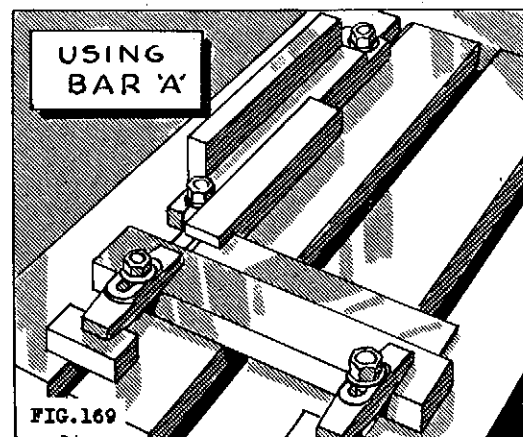

FIG.169
NOTE: Either of the aligning bars, or strips, shown at A and B may be used for this purpose. If the one at B is selected, it is held to the table with bolts which pass through the slot. The strip A is secured to the table with clamps (Fig 169).
5. Place the beam of the square against the first aligning bar and adjust the second aligning strip parallel with and against the blade of the square (Fig. 169).
NOTE: If an aligning strip already has been set parallel with the stroke, the second strip may be set at an angle with the one located on the table (Fig. 169). In this case, the protractor is substituted for the square, and the strip is set at an angle.